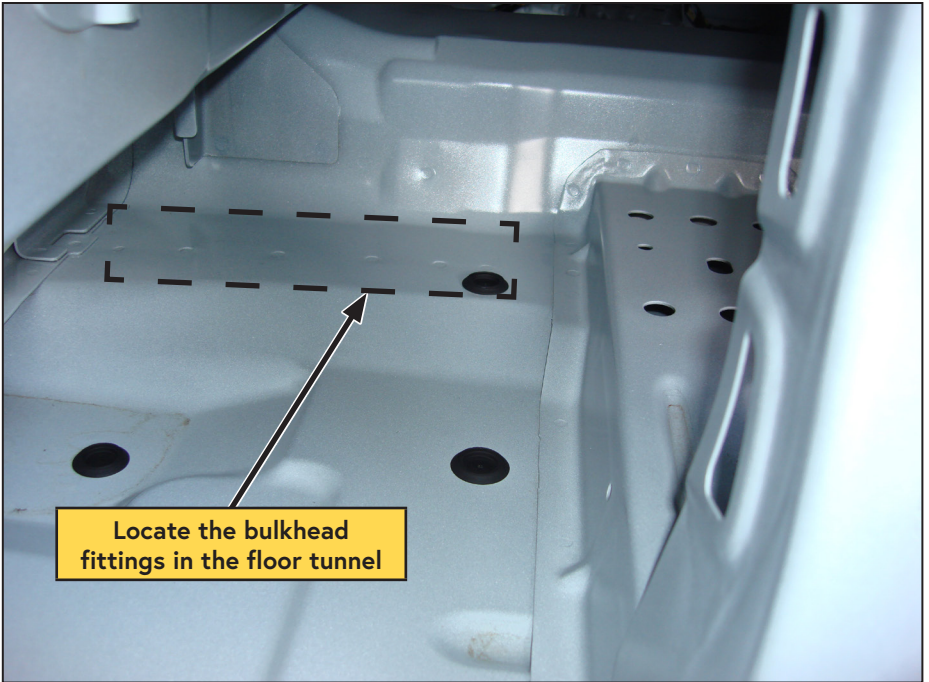

Figure 33 — Floor tunnel
- Install the bulkhead fittings in the floor tunnel. These instructions are continued on the next page (Figure 33).